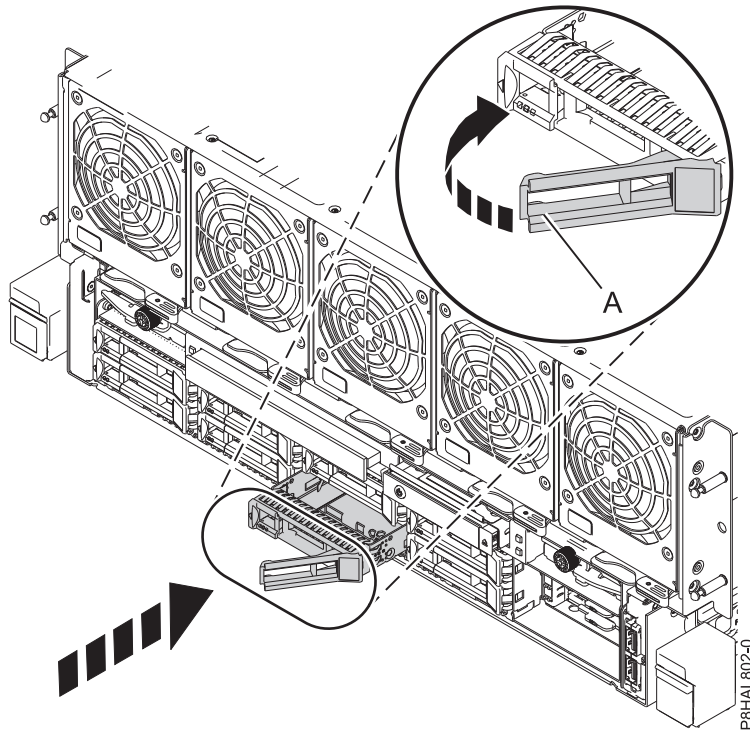

Figure 24. Replacing a disk drive in an 8408-44E or 8408-E8E system
3. Unlock the drive bay handle (A) by pressing it and pulling it out toward you. If the handle is not all the way out, the drive does not slide into the system. See Figure 24 on page 37.
- When the identify LED turns on solid, slide the drive all the way into the system, and push the drive carrier handle (A) in until it locks, as shown in the following figure.